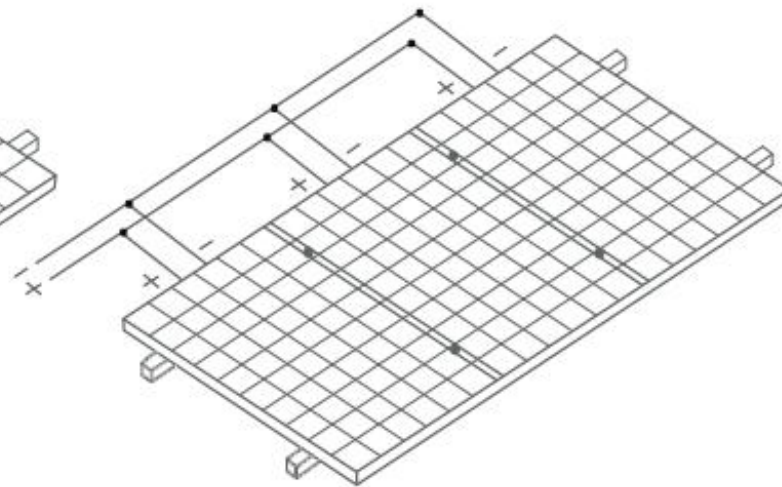

Figure 5 Connection in Parallel
- When connected in parallel, the current output is equal to the sum of each string's current (as shown in Figure 5). Fuse is necessary for each module string. Please take reference to the local regulation. Recommended maximum parallel Modules configurations: Fuse rating/(1.25* short-circuit current).